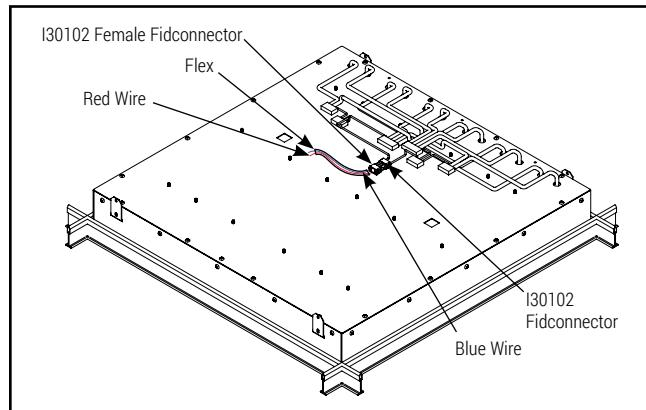

Figure 4.
7. Connect QD male and female connectors with Blue and Red wire passing through Flex cable (Figure 4.)